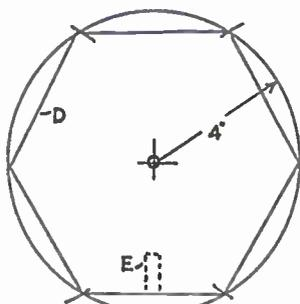

Fig. 1
Construction includes a baseboard, on which the cake-board can be rotated. For the baseboard, on a stout piece of wood not less than $\frac{1}{2}$ in. thick and free from knots, strike the circle shown in Fig. 1. Step the radius round the circle, which will divide it into six equal parts from which the hexagon (D) can be pencilled in. Cut this out, and in the centre, indicated by the compass point mark, bore a $\frac{1}{2}$ in. hole. Turn the base over, and where shown by the dotted lines (E), saw and chisel out a groove $\frac{1}{2}$ in. deep and wide and 1 in. long, for the handle to subsequently fit in.